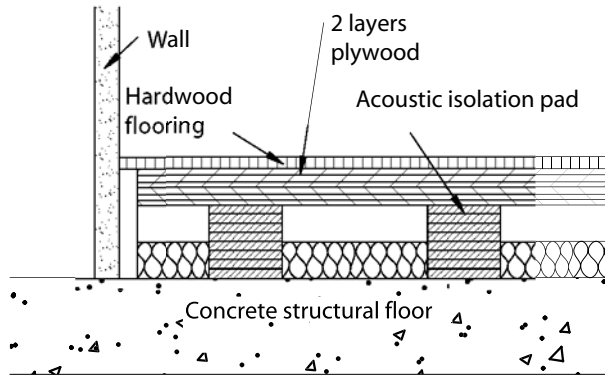

Figure 53-6 Floating wood floor detail.
Floating floors (Fig. 53-6) reduce transmission of impact noise and increase the sound transmission loss (TL) rating of a structure. They are used in condominiums, apartments, and commercial buildings for the control of impact noise produced by footfalls or other impacts. In recording studios, sound rooms, television or movie studios, floating floors reduce the transmission of external noise into the studio. Floating wood floors are used for dance and exercise floors with resiliency requirements.